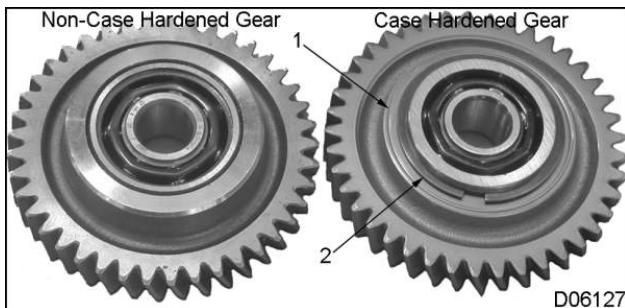
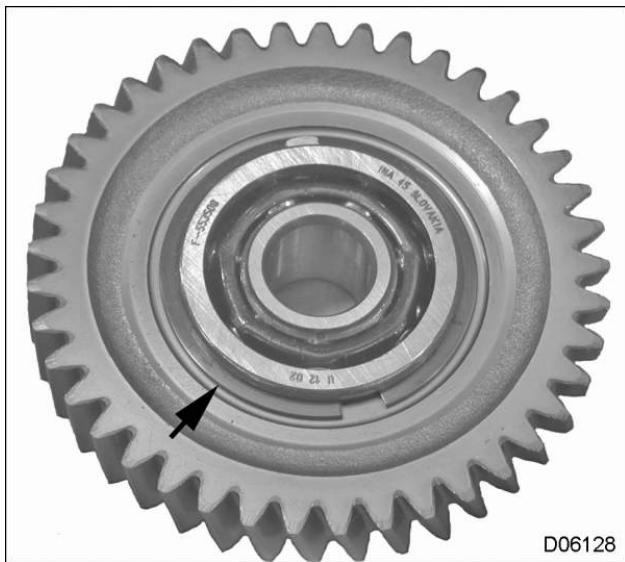

Figure 33 Note Witness Mark and Retaining Ring On Front of Idler Gear
Figure 34 Note Retaining Ring on Back of Idler Gear
35. Identify improved power steering idler gear. Verify witness mark on inner surface (Figure 33). Verify inner and outer retaining rings (Figure 34) are in place holding the bearing in the gear. NOTE — **do not** install an idler gear that **does not** have a circular witness groove or both of the retaining rings.